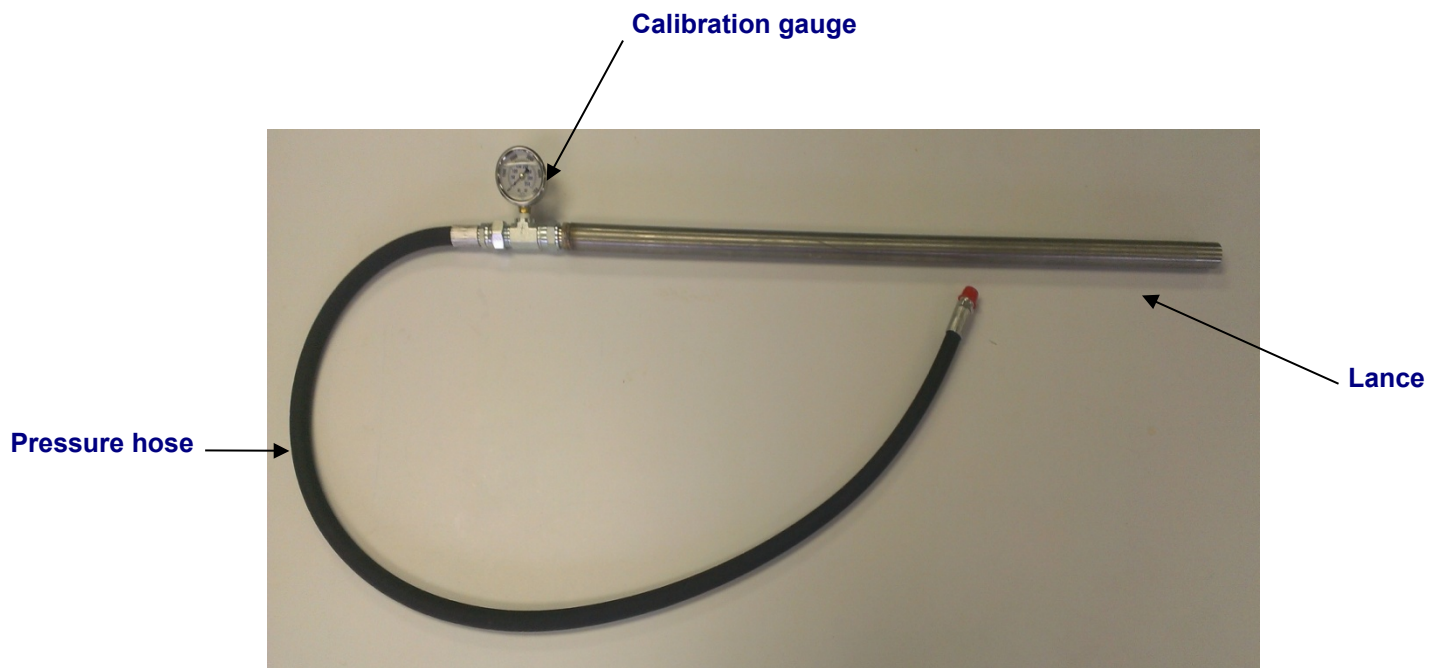

Figure 5.1 – Lance Pressure Calibration
- Attach the calibration gauge between the main hose line and the lance and tighten the JIC connections. (See Figure 5.1)
- Hold the lance tight and observe the calibration gauge (See Figure 5.1).